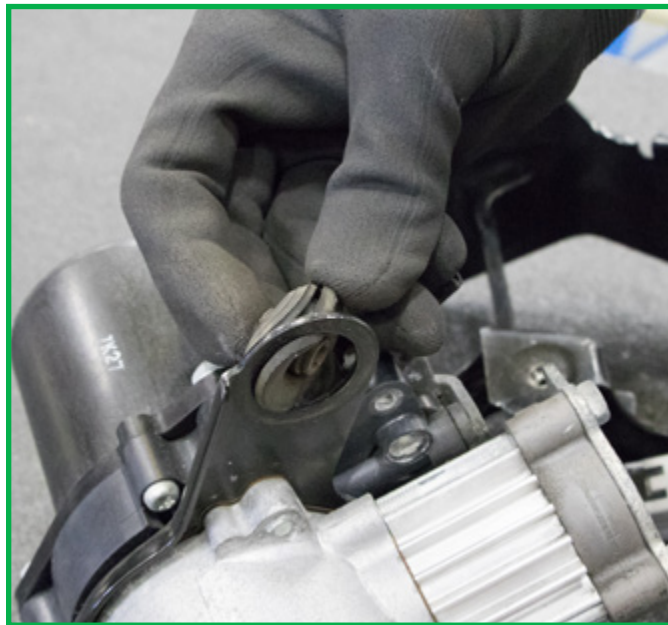

FIGURE 11
2. Remove the three rubber isolators from the bracket holes. (Figure 11)